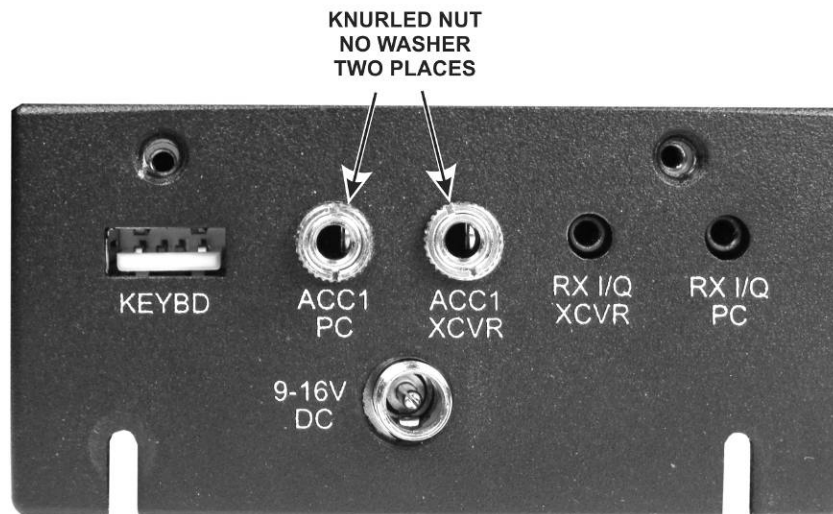
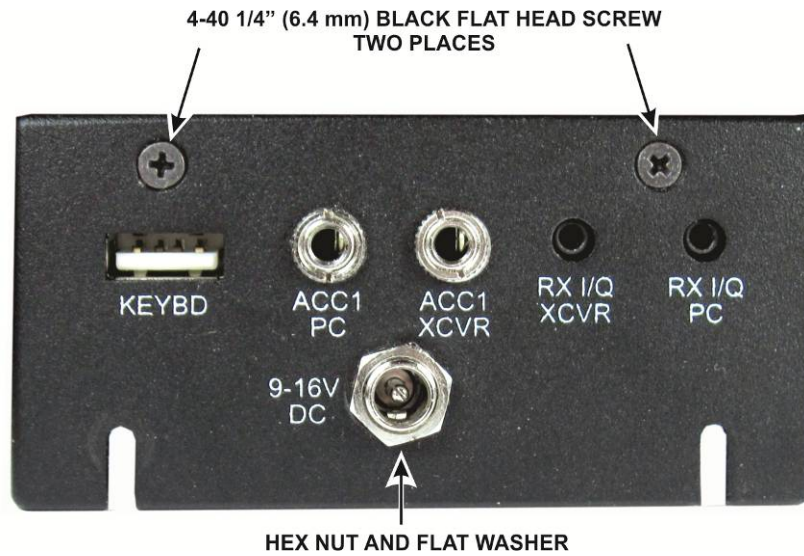

Figure 37. Mounting the Left Side Panel Part 1.
Figure 38. Mounting the Left Side Panel Part 2.
- Add the hex nut and washer on the power connector and the two flat head screws as shown in Figure 38 to complete mounting the left side panel.
To remove the boards, first remove the nuts on the connectors on the left side panel, and then the two screws holding the side panel on the front panel assembly (See Figure 37 on page 48 and Figure 38 on page 49).